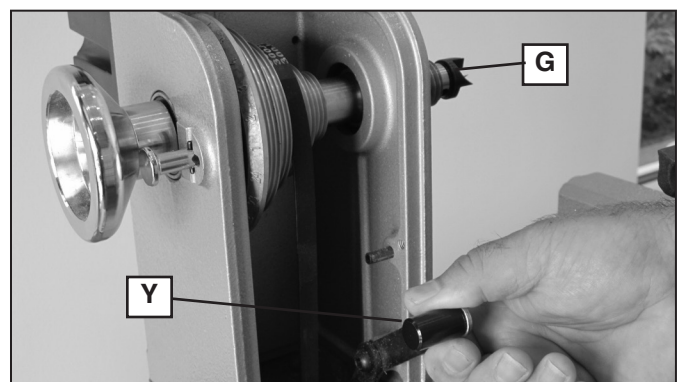

Fig. 30
2. Pull down belt tensioning lever (Y) Fig. 30 to release belt tension.
3. Remove spur center (G) Fig. 30, if attached.